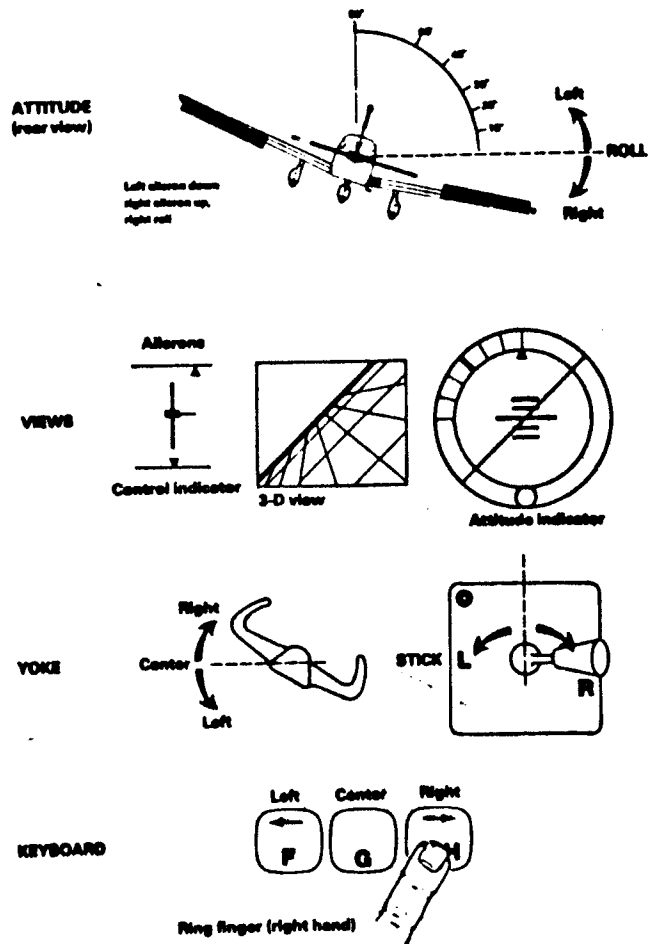

Figure 3. Ailerons – Controls and Effects
Figure 3 shows the yoke's aileron control function and effects.
3. With your index finger, press the F key 3 times. Rock your hand about the G key as you would move a joystick to press F.
4. Notice the aileron control indicator (see Fig. 3) move to the left.
6. Try right ailerons (H) key, and move the aileron indicator right and left without using the center key. The center key is only a convenience to let you quickly move the ailerons to center position.